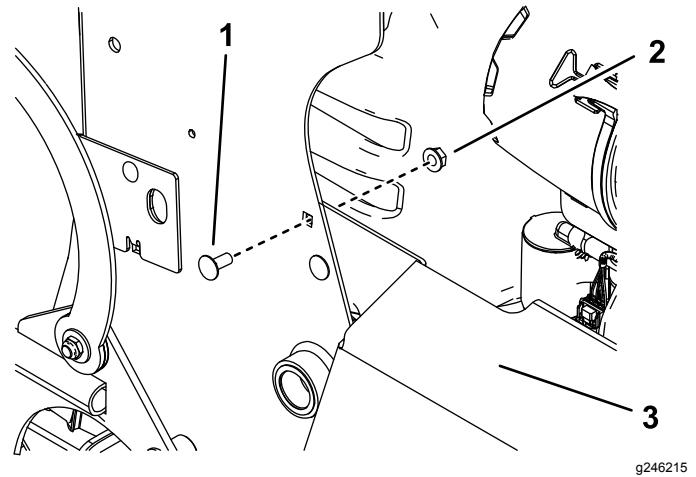

Figure 6
2. Remove the top carriage bolt and nut securing the muffler guard to the machine (**Figure 6**).